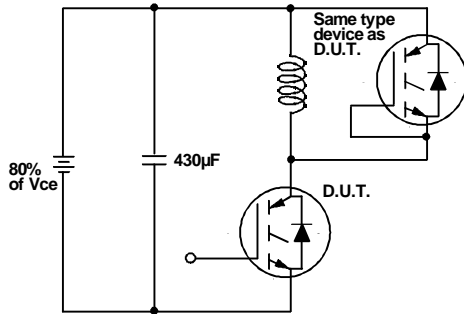

Fig. 18a - Test Circuit for Measurement of I_{LM} , E_{on} , $E_{off}(\text{diode})$, t_{rr} , Q_{rr} , I_{rr} , $t_{d(on)}$, t_r , $t_{d(off)}$, t_f
- Fig. 18e - Macro Waveforms for Test Circuit Fig. 18a